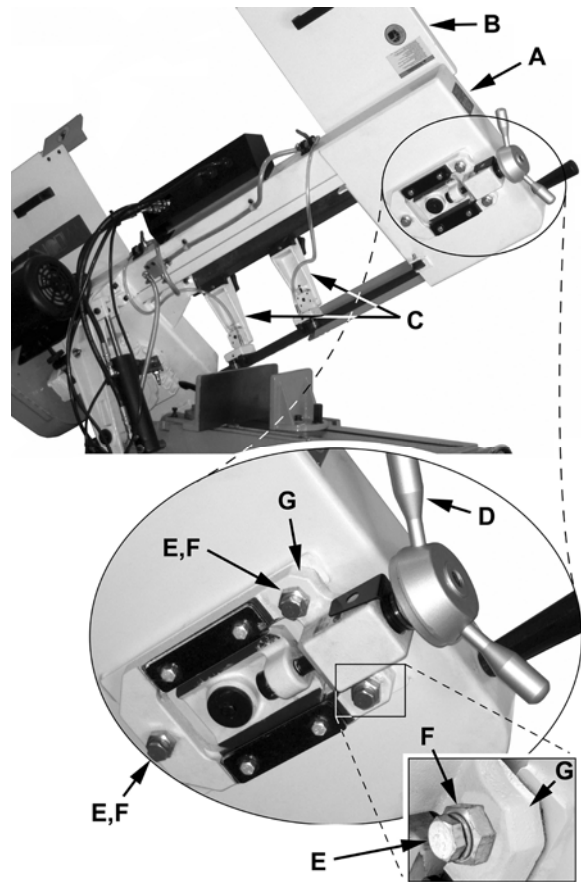

Figure 13
Refer to Figures 13 and 14.
10. Turn the *adjustment screws* (F) slightly in the counter-clockwise direction. This assures that the blade is not touching the shoulder of the wheel.
12. Tighten the *hex locking screws* (E).
13. Install the *blade-guide bearing bracket assemblies* (C, Fig. 13).